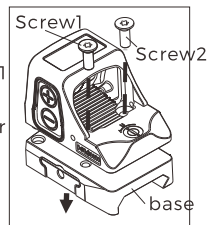

Fig 6-1
1. Remove the two screws shown in the figure 6-1 and remove the rail mount from the HE508T.